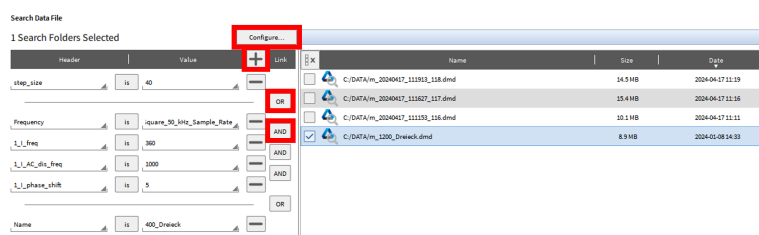

Fig. 3.16: Search files filter options
7. The “Search Files...” button will open a dialog window enabling to filter the data files by AND, OR conditions. The conditions cannot be used sequentially. To switch from AND to OR, simply click on the AND (see Fig. 3.16).